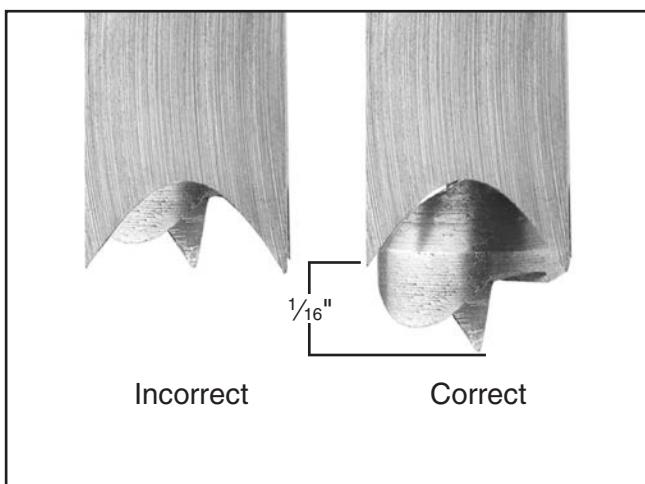

Figure 20. Auger extending beyond tip of chisel.
8. Slide auger into chuck, allowing tip to extend past tip of chisel $\frac{1}{16}$ " (see **Figure 20**). Tighten chuck with key.